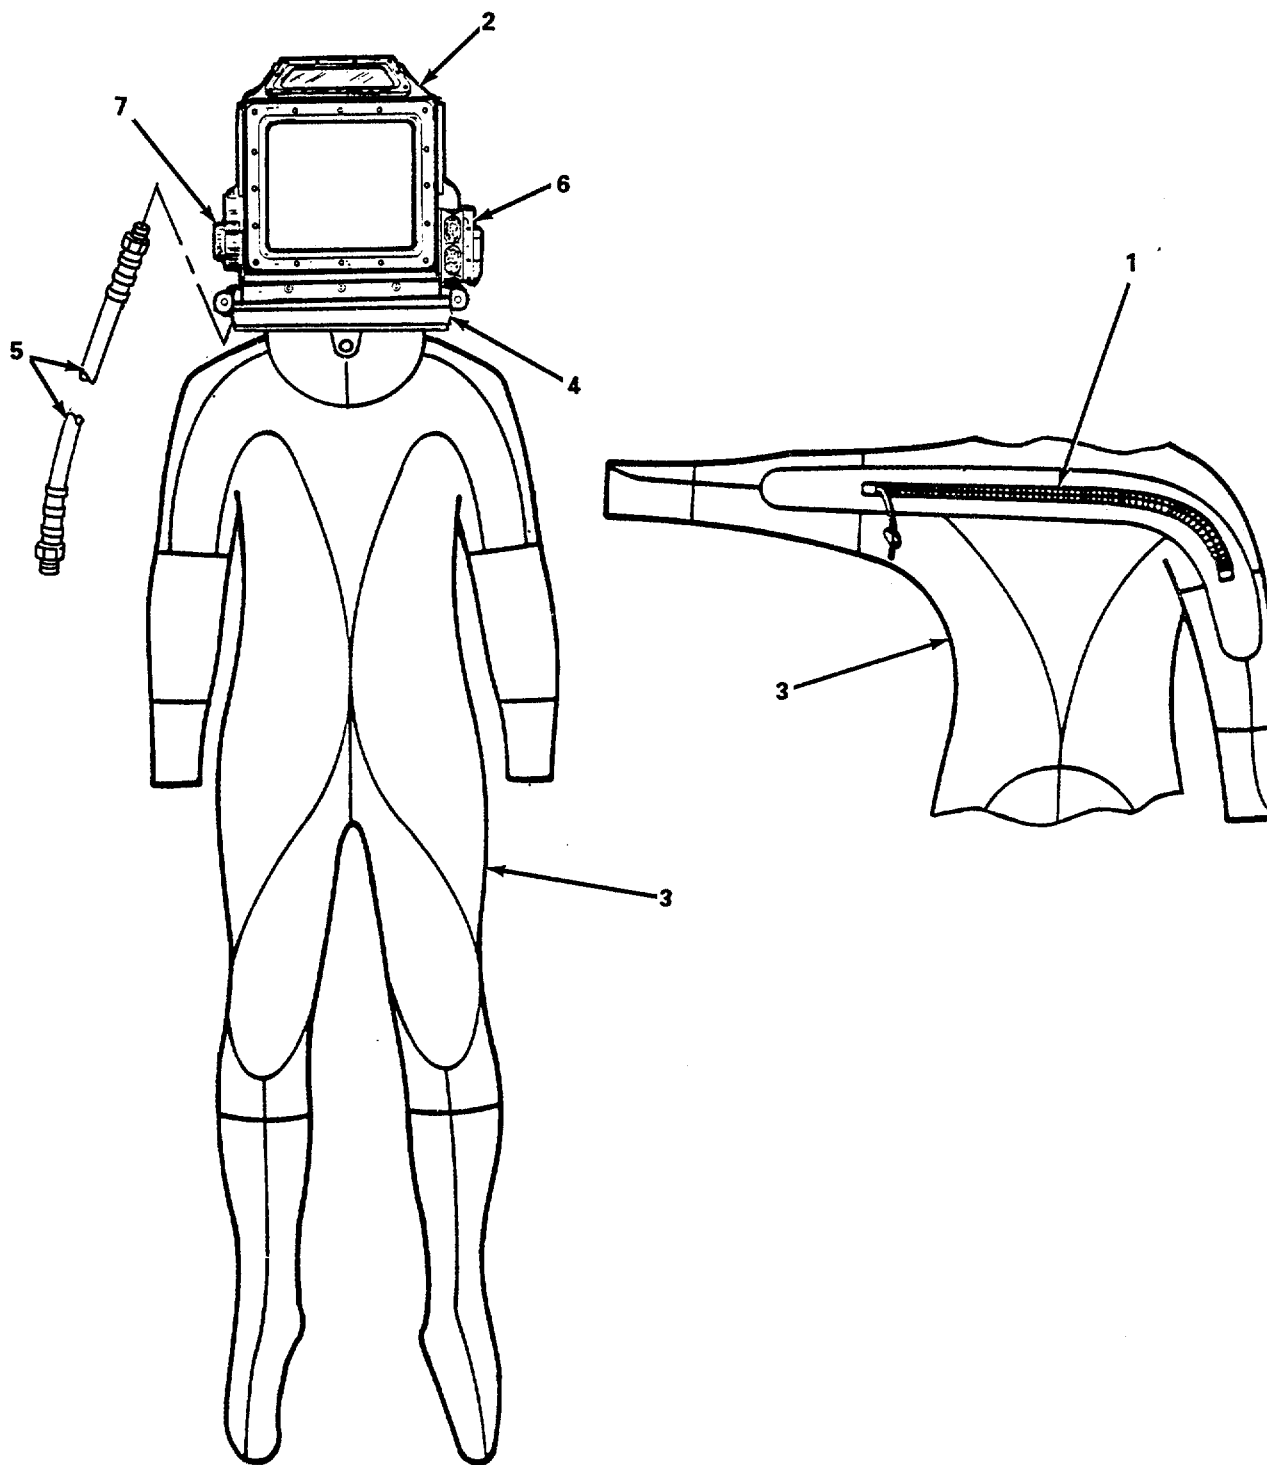

Figure 2-5. Drysuit Leak Test.
d. Drysuit Leak Test (figure 2-5).**NOTE**